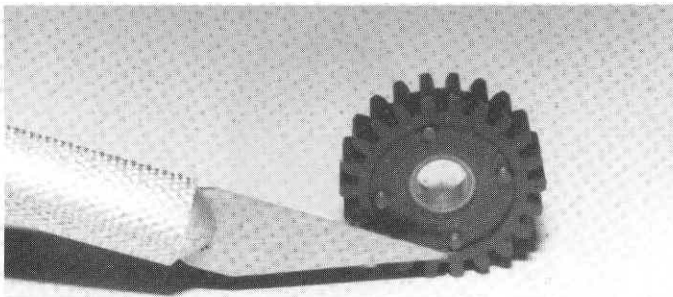

Fig. 48
□ **Fig. 48** To lock the screws in, we recommend the use of pink ZAP. This is a cyanoacrylate adhesive. Put a VERY, VERY SMALL amount of ZAP on the end of an X-acto blade and put it on the bottom screw as shown. Now rotate the gear and put it on the 2nd screw, which will now be in the bottom position. This way if you get too much ZAP on, it will run down away from the bearing and not on the bearing. Do all 4 screws this way, on both gears.